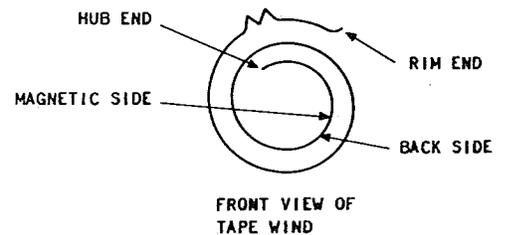
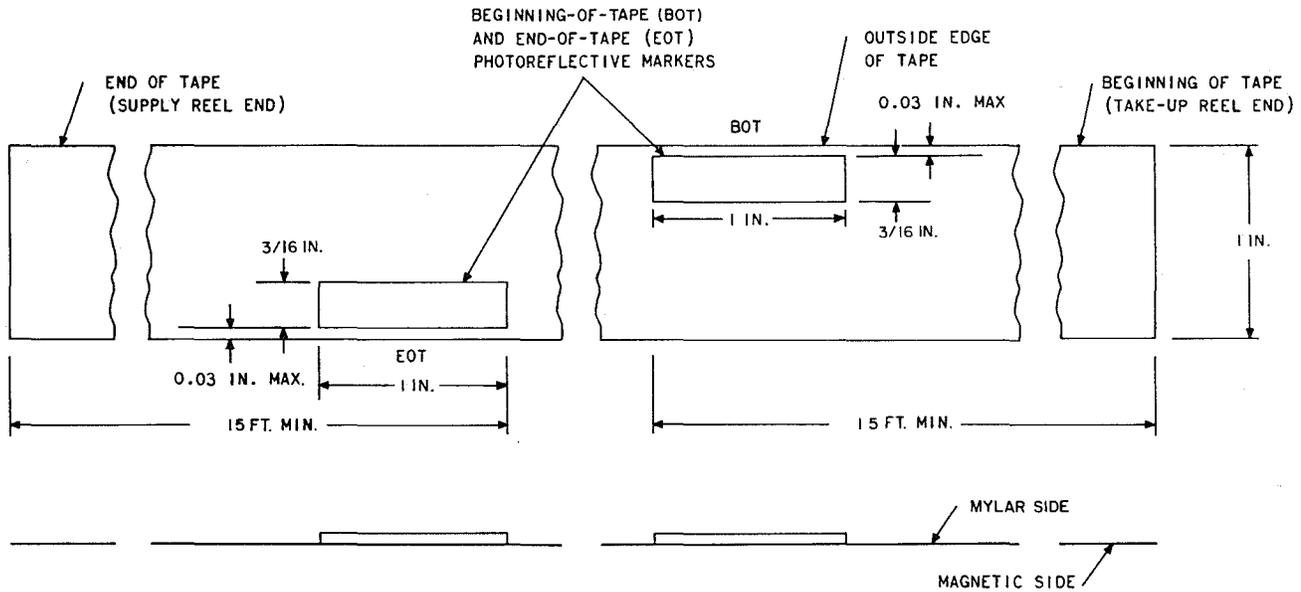

Fig. 3—Photorefective Tape Marker Placement on 1/2-Inch Magnetic Tape
Fig. 4—Photorefective Tape Marker Placement on 1-Inch Magnetic Tape
3.01 When mounting a reel of magnetic tape, the tape should be wound around the hub without securing or sticking the end of the tape to the hub or into a hub slot (if provided). (See Fig. 3.)
3.02 If the ends of a reel of tape are frayed, wrinkled, or otherwise damaged, the damaged portion should be cut off before threading the tape in the recorder. If more than a few inches of the tape leader are removed, a new BOT (beginning of tape) or EOT (end of tape) photo reflective marker should be affixed to the tape in accordance with Fig. 3 or Fig. 4
3.03 For proper loading of a reel of magnetic tape, the BOT marker should be located. The BOT marker is approximately 3 inches on the take-up reel side of the write head (or write-read head). The tape should not be used in the immediate vicinity of the BOT and EOT markers where adhesive may be found (Fig. 3).